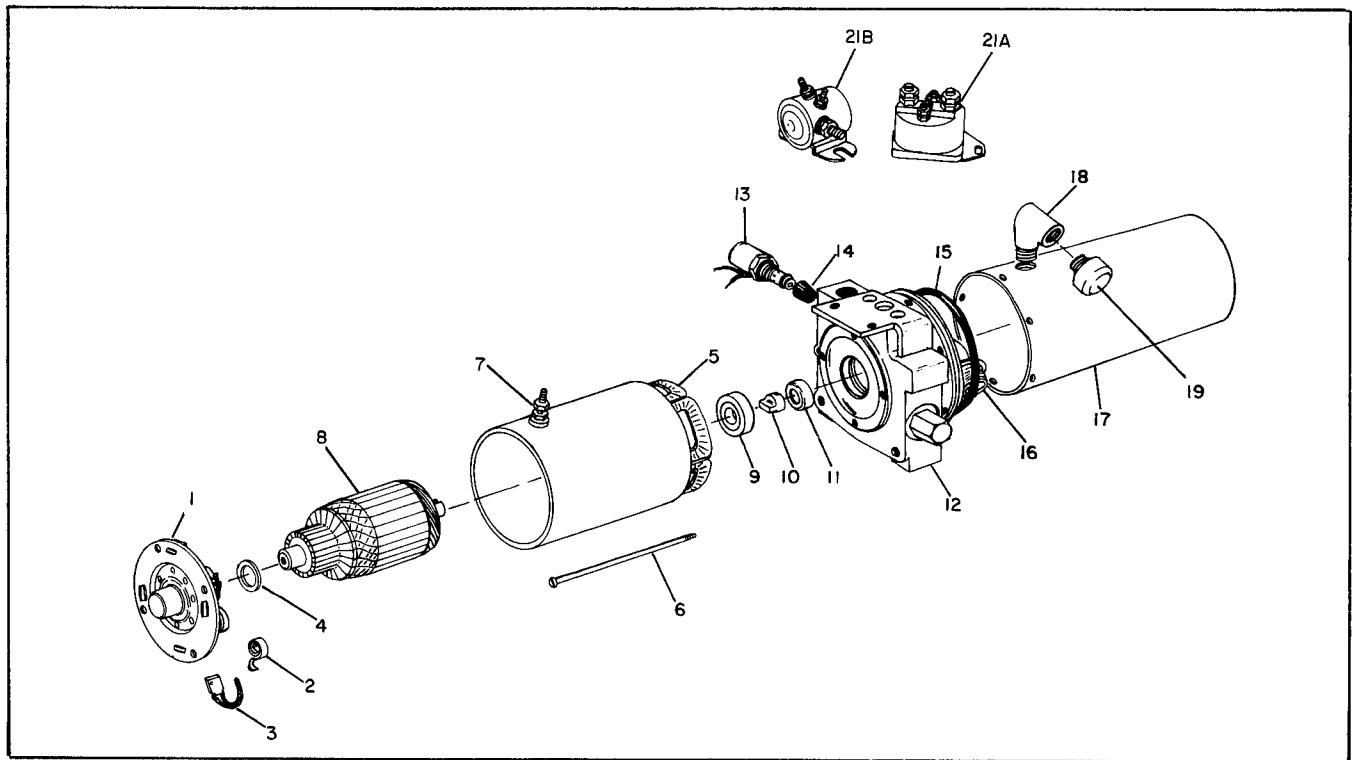

Figure 3-22 Pump-Motor-Reservoir Assembly. (Serial Numbers 81936 and Lower)
3-22. HYDRAULIC PUMP-MOTOR-RESERVOIR ASSEMBLY. (Figures 3-22 and 3-23)
The hydraulic pump-motor-reservoir assembly may be repaired. The motor can be rebuilt, but a defective pump has to be replaced as complete unit. Refer to figure 3-22 for breakdown of motor. Proceed as follows to remove and disassemble hydraulic pump-motor-reservoir assembly:
6. Disassemble using figure 3-22 as a guide for pump-motor-reservoir assembly 016575 and 3-23 for assembly 016580.